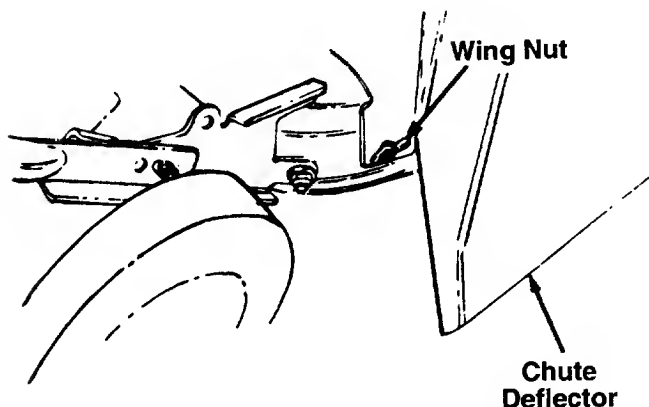

FIGURE 4.
3. Secure the front of the chute deflector to the bolt on the side of the deck with one wing nut. See figure 13. Secure the back of the chute deflector in the same manner. See figure 4.